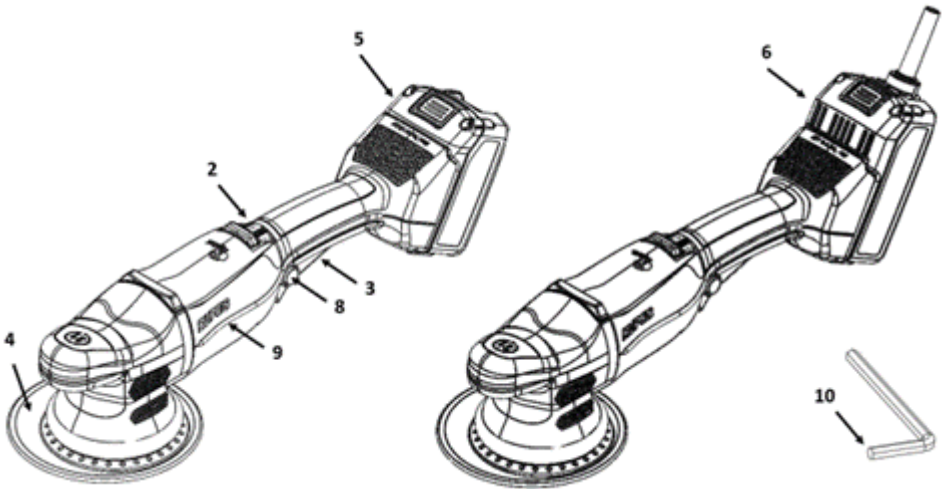

Fig.1
- Place the backing pad (4) in the center; slightly turn the backing pad until it is in the correct position on the spindle (Fig. 1);